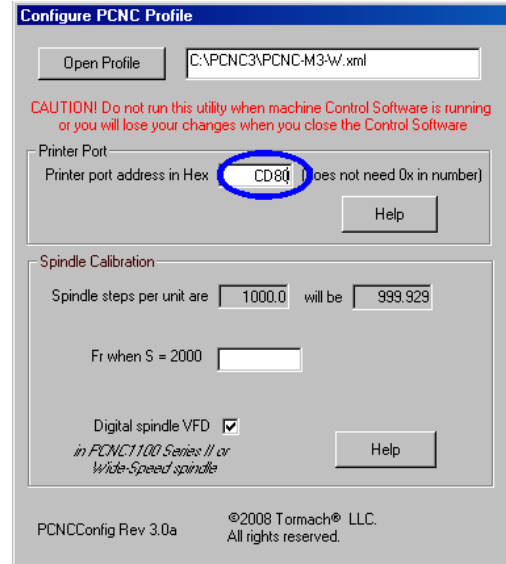

Figure 9.14 – Entering port address
9. Finally, run the PCNCConfig program and open the PCNC3 profile (details in section 9.5.8 above) and enter this number under the “Printer Port” heading (figure 9.14).